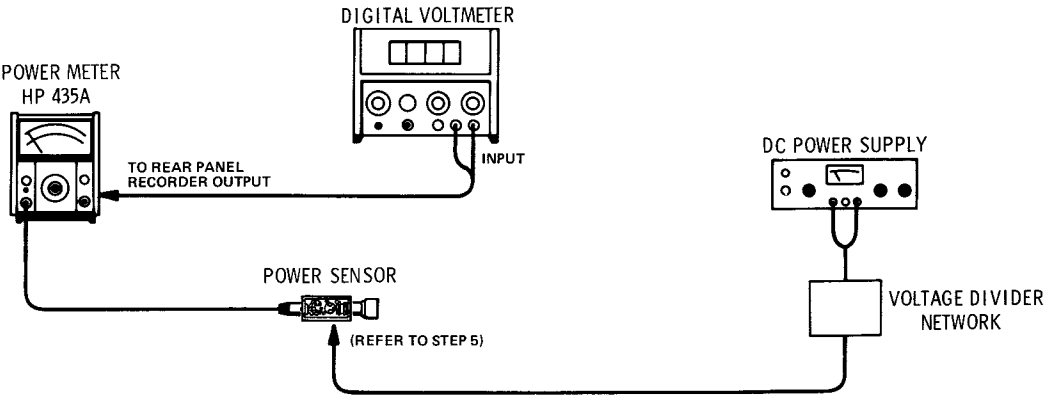

Figure 4-2. Instrumentation Accuracy Test Setup Without Calibrator
5. Connect the equipment as shown in Figure 4-2. The dc output voltage from the Voltage Divider Network is coupled to the Power Sensor's sampling gate input (positive output of power sensing device). Refer to the schematic and the component location diagram in the Power Sensor manual.